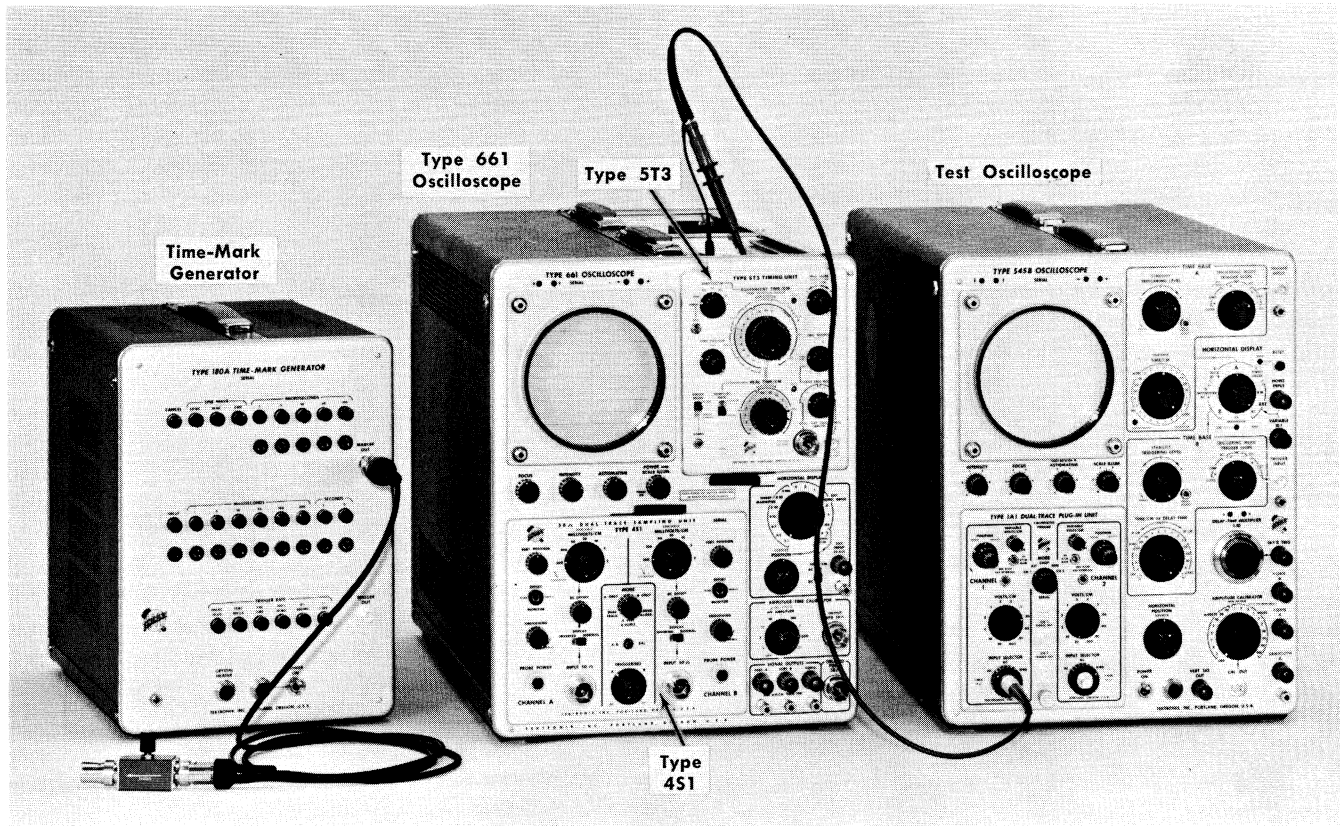

Fig. 5-28. Test equipment setup for steps 19 through 24.
- Test equipment setup is shown in Fig. 5-28.